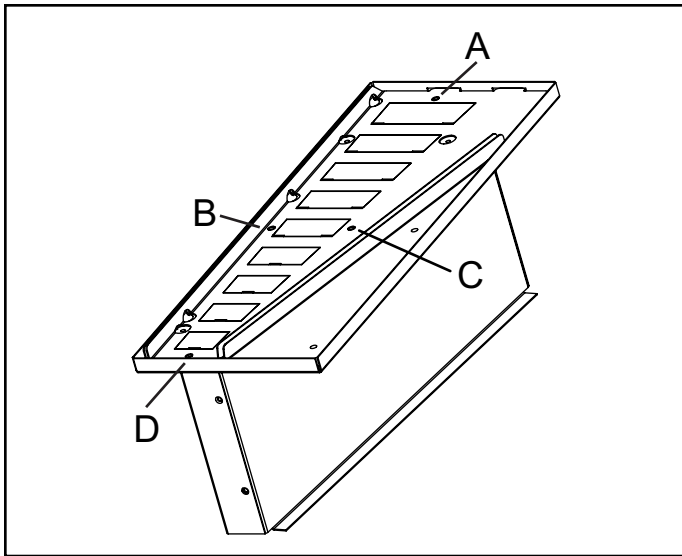

Figure 3. Chase Assembly
- Remove Knockout Plate (4 screws / locations A, B, C, D; see Figure 3).
- Reinstall Knockout Plate using 2 screws in location B and C (see Figure 3). Leave front and rear screws removed.